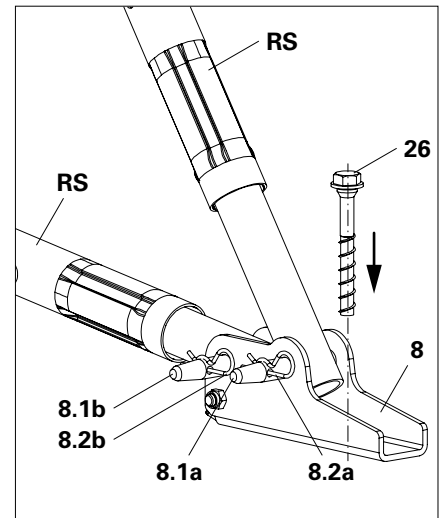

Fig. A5.01
5. Mount the Base Plate on a flat and sufficiently load-bearing substrate, e.g. using Anchor Bolt SW24 Ø14/20x130mm **(26)**. (Fig. A5.01)